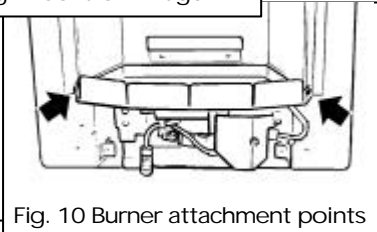

Fig. 10 Burner attachment points
6.2 Detach the burner unit from the convection box by removing two screws (see figure 10). Lift the burner unit clear.